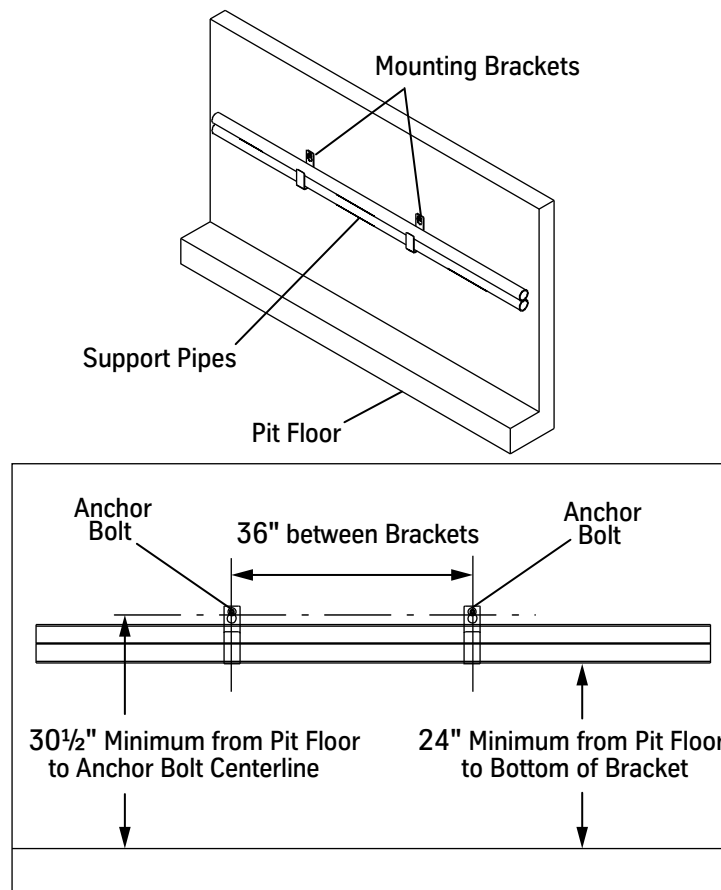

Figure 41 - Support Pipe Mounting Bracket Kit
5. If the clearances are satisfactory, locate and install the provided anchor bolts. See Figure 41 for dimensions.